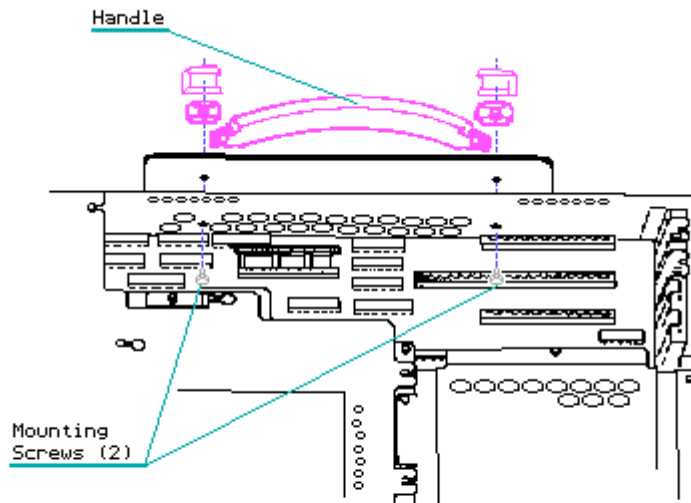

Figure 7-39. Removing the Handle
4. Using a Torx screwdriver, remove the two mounting screws that secure the handle to the system chassis, and remove the handle system chassis (Figure 7-39).